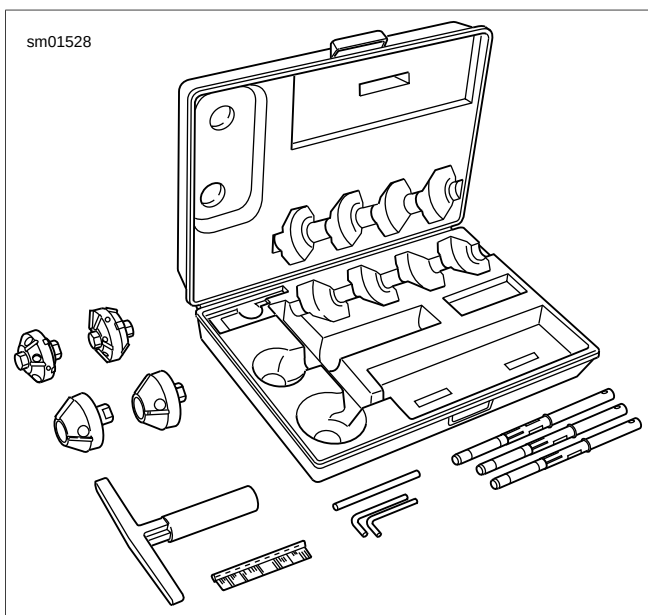

Figure 3-129. Neway Valve Seat Cutter Set (Part no. HD-35758-C)
5. See Figure 3-129. Obtain the NEWAY VALVE SEAT CUTTER SET (Part No. HD-35758-C). Select the correct CUTTER PILOT (Part No. B-35758-52A). Securely seat the pilot by pushing down and turning using the installation tool supplied in the tool set.